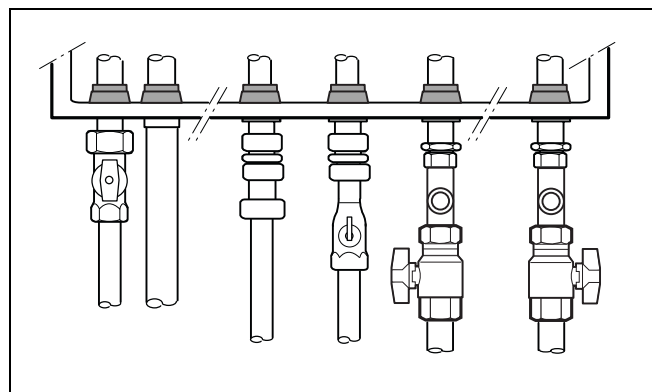

fig. 41 Visual inspection for signs of corrosion
- Check all gas-bearing and water-bearing pipes for signs of corrosion (fig. 41).